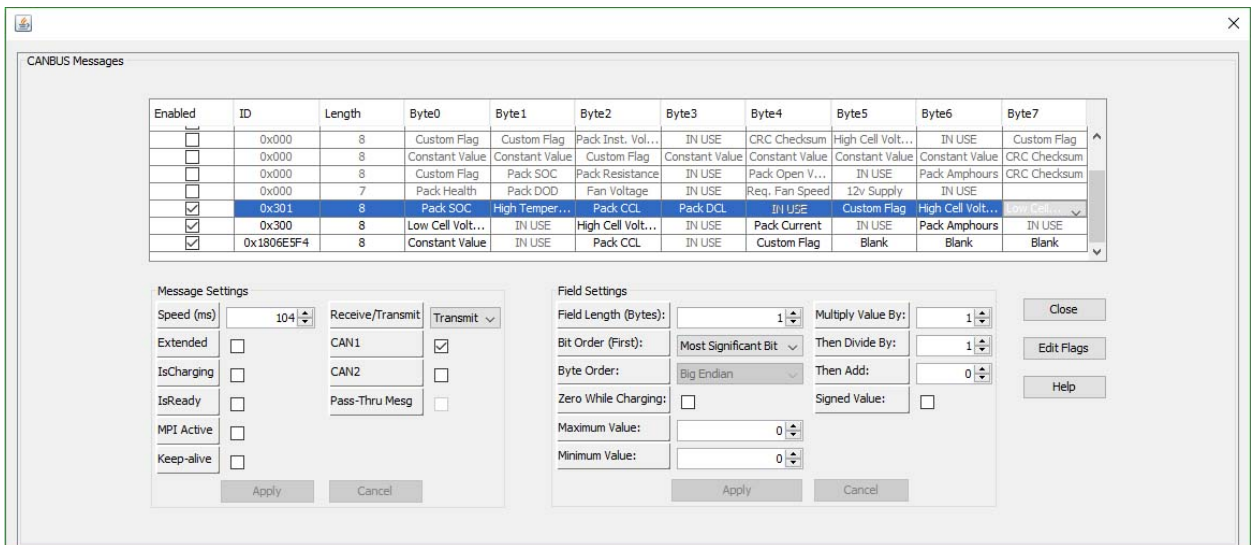

Fig. 40
23. Make sure that the Message and Field Settings for **LOW CELL VOLTAGE ID** are the same as in (Fig 40).